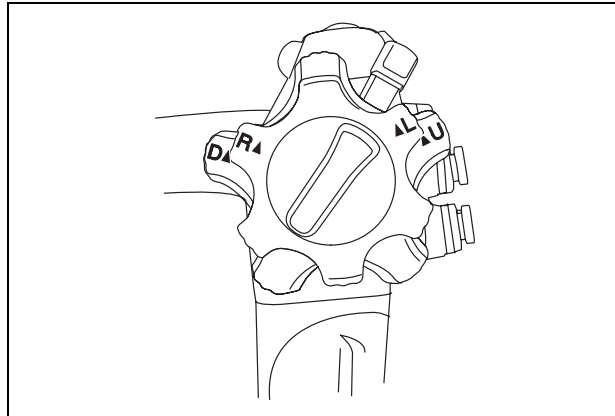

Figure 3.6
3. When the UP/DOWN and RIGHT/LEFT angulation control knobs are turned to their respective neutral positions as shown in Figure 3.6, confirm that the bending section returns smoothly to an approximately straight condition (except GIF-N180).